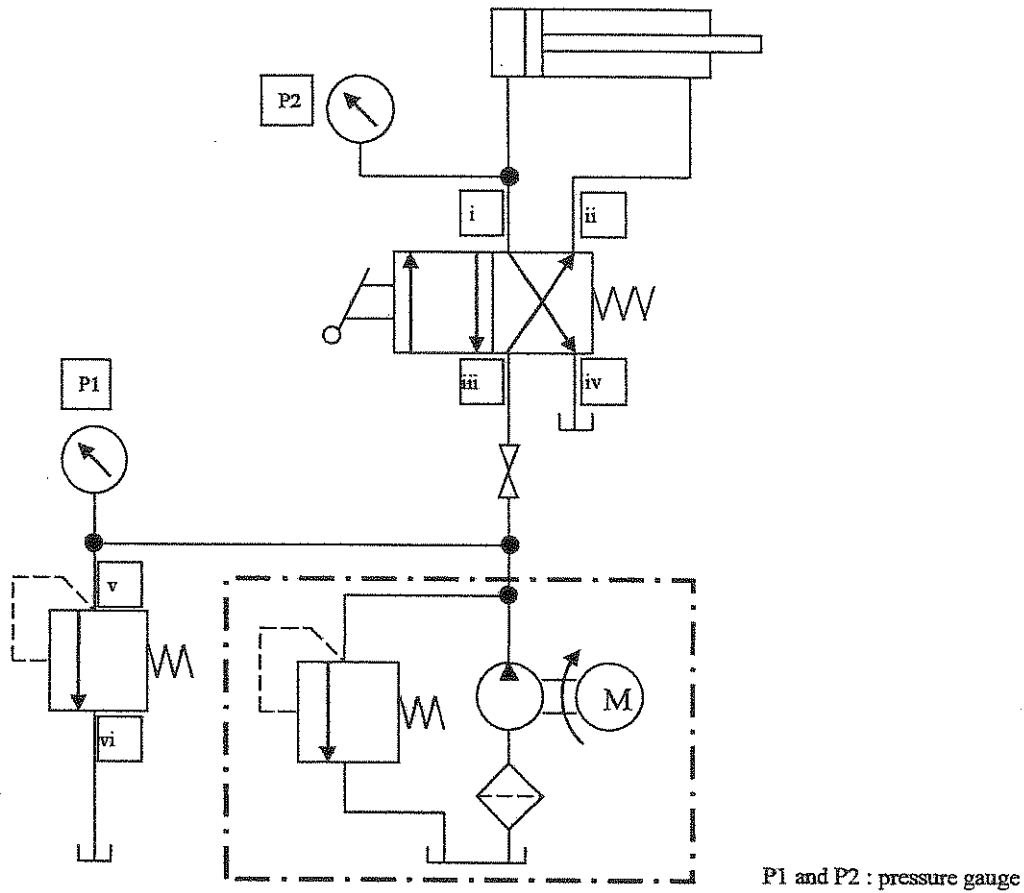
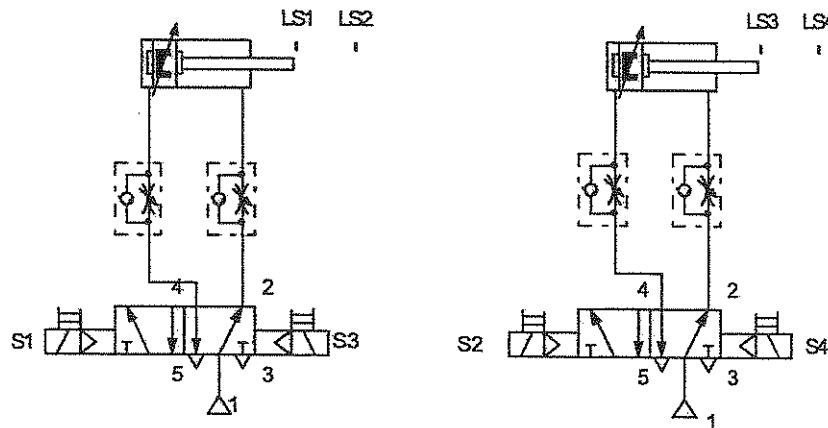

Figure 1: Basic hydraulic control system.
Figure 4: Pneumatic control circuit.
- (b) Explain the basic operation for the basis hydraulic system in Figure 1. The pressure is set to 5.0 MPa (50 bar) with a pressure relief valve. (10 marks)
The original sequence of the system in Figure 1 is A+B+B-A-. Analyze, redesign and redraw the circuits in Figure 4, so the sequence is A+B+A-B-.